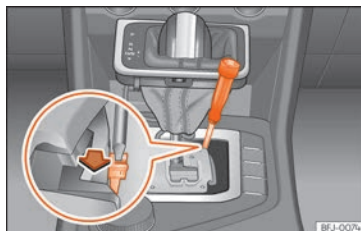

Fig. 248 Gear selector lever: manual release from the parking position.
- Using the flat part of a screwdriver, press the yellow tab sideways and keep it pressed down **Fig. 248**.